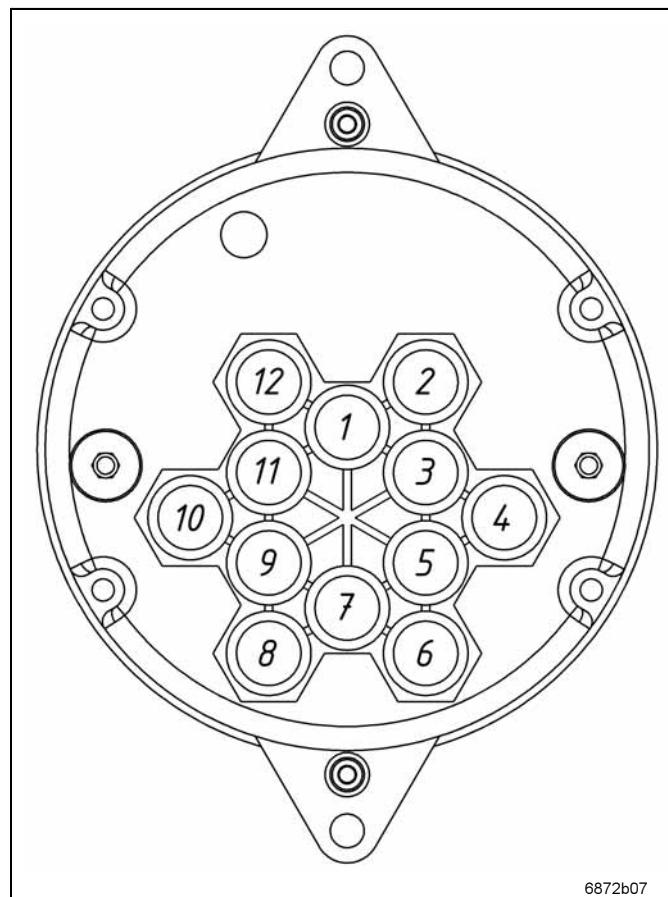

Fig. 7 Configuration of outlet positions
- Factory configuration, see Fig. 7